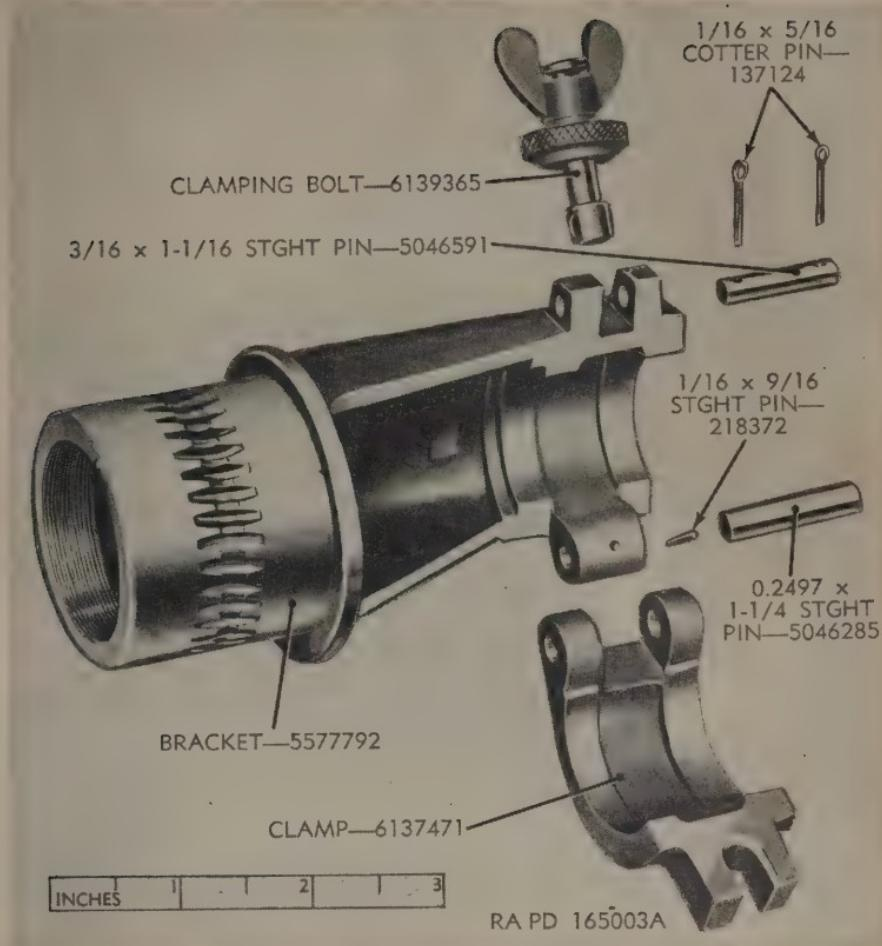

Figure 29. Telescope mount M23—telescope bracket assembly—exploded view.
54. Disassembly of the Telescope Bracket Assembly (fig. 29)
(fig. 29)